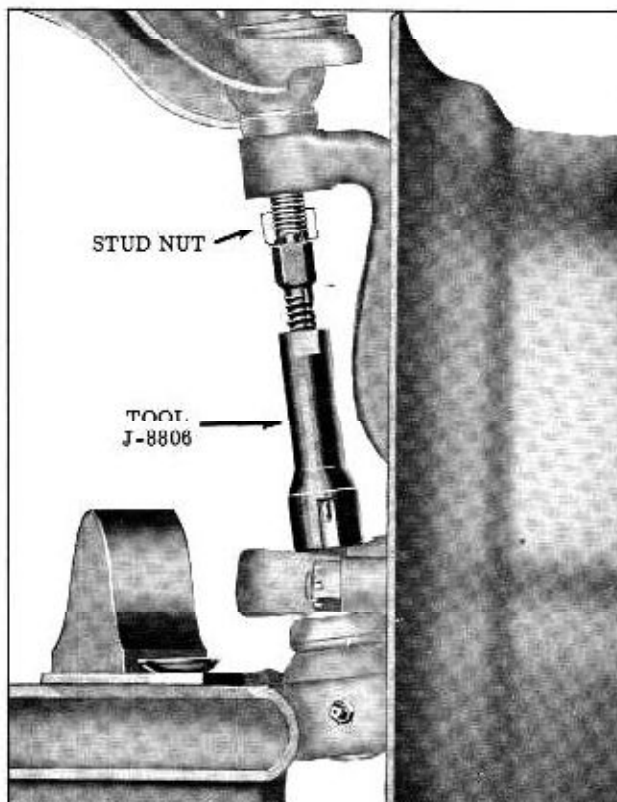

Fig. 5-9 Loosening Upper Ball Joint
- b. Loosen the upper ball joint nut and install Tool J-8806 as shown in Fig. 5-9.
- Disconnect the control arm ball joints from the steering knuckle as outlined under Control Arm Removal. (Fig. 5-9 and 5-13)